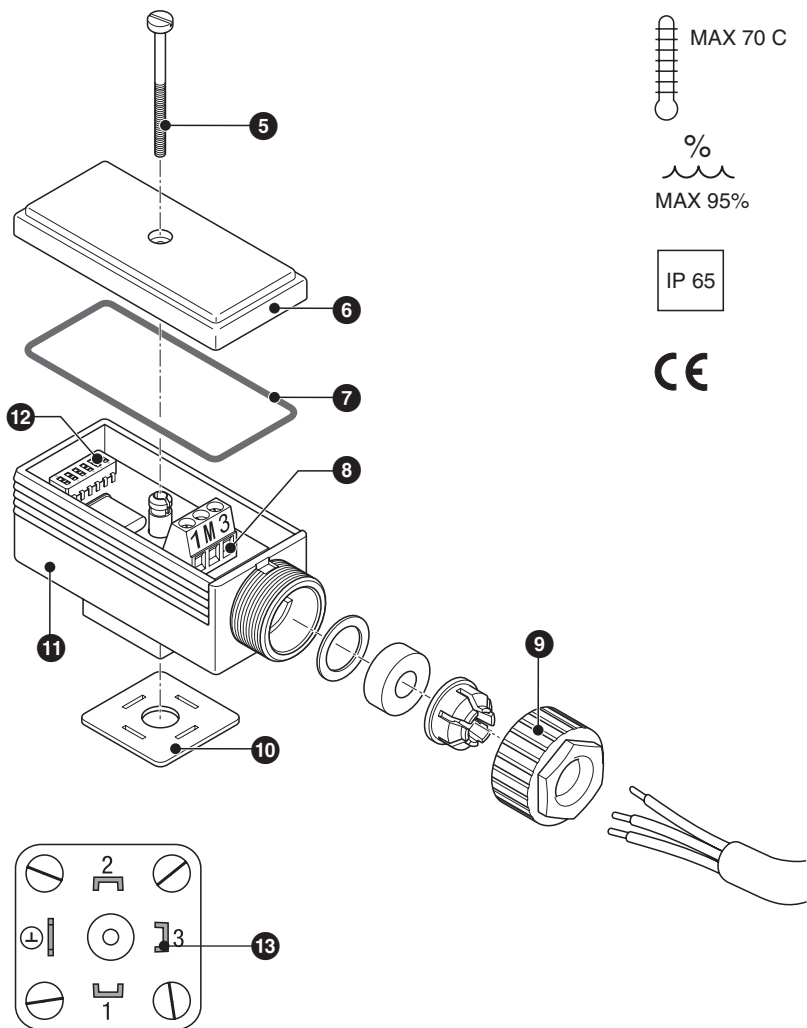
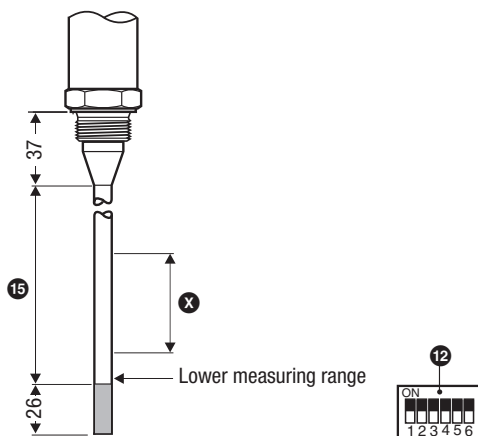

Fig. 5
Fig. 11
1. Undo screw ⑤, Fig. 5.
2. Take the terminal box off the level electrode, leaving the sealing plate ⑩ on the contact plate ⑬.
3. Remove cover ⑥ with seal ⑦.
4. Detach cable gland ⑨ from terminal box ⑪.
5. Run cable through cable gland ⑨ of the terminal box ⑪ and connect the terminals of the terminal strip ⑧ according to the wiring diagram.
6. Replace cover ⑥ and insert screw ⑤.
7. Put terminal box onto the level electrode and fix it firmly by tighten screw ⑤.
The default setting of the code switch 12 is the max. measuring range for water (conductivity $\geq 20 \mu\text{S/cm}$). The max. measuring range is the length 15 (distance between lower and upper measuring point) plus 26 mm, see Fig. 11.
Establish the length of the control range using the code switch 12, see Fig. 5, Fig. 11